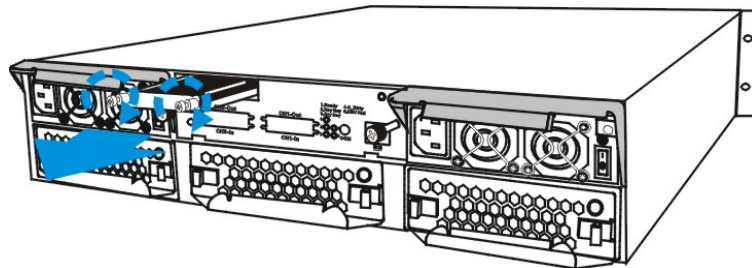

Figure 5-4: Remove the BBU Retention Screws
Step 1. Remove the faulty BBU module from the chassis. The BBU module is secured to the chassis with two (2) spring screws. These screws must be loosened. To loosen, turn the screws counterclockwise. (See **Figure 5-4**)